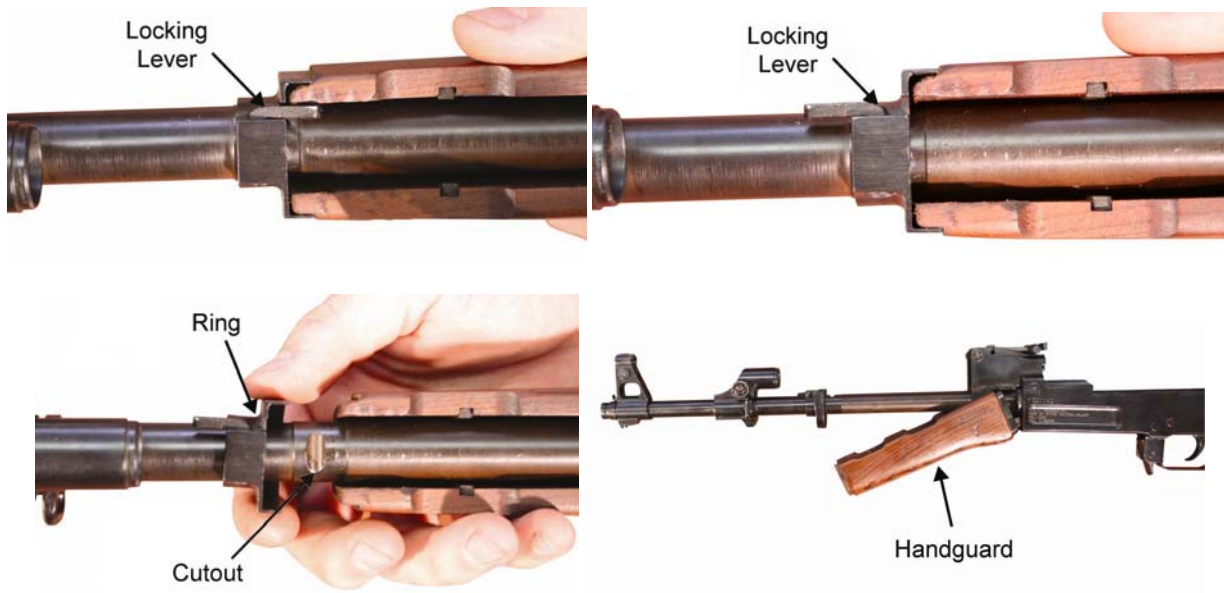

Figure 12. Removing the Handguard.
9. To remove the handguard, swing the locking lever forward. Refer to Figure 12. Slide the ring forward and remove the handguard. Refer to Figure 12. It may be necessary to use a field expedient tool to move the locking lever.